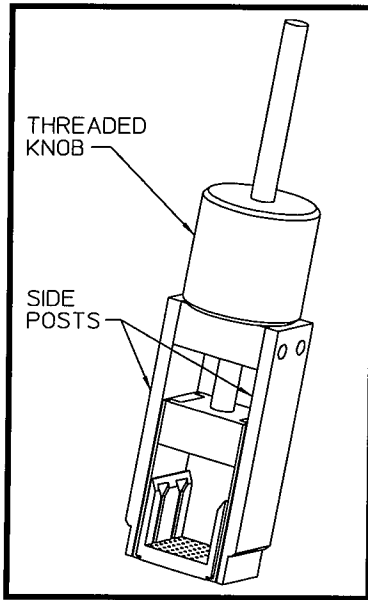

Fig. 5
4. Now turn the threaded knob clockwise until it touches the side posts and upper cross member as shown in Fig. 5.